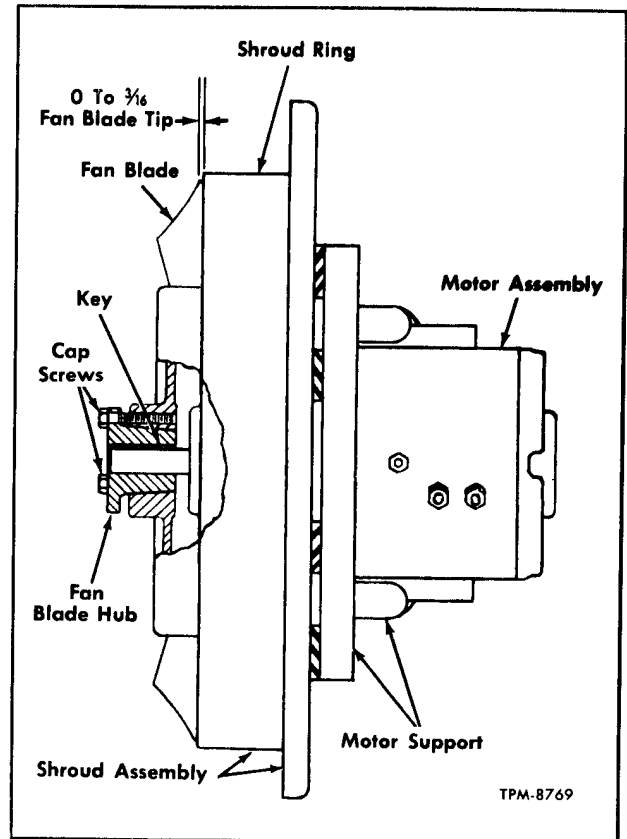

Figure 46—Underfloor Blower Fan Blade Installation
2. Referring to figure 46, remove three cap screws which attach tapered fan blade hub to blade. Using two of these same screws as puller screws in tapered holes of hub, separate hub evenly from blade.
3. Align blade and hub on shaft so that when the three attaching cap screws are tightened to 80 to 85 in.-lbs. torque, the rear tip edge of blade will be 0 to 3/16" from shroud ring as shown in figure 46.